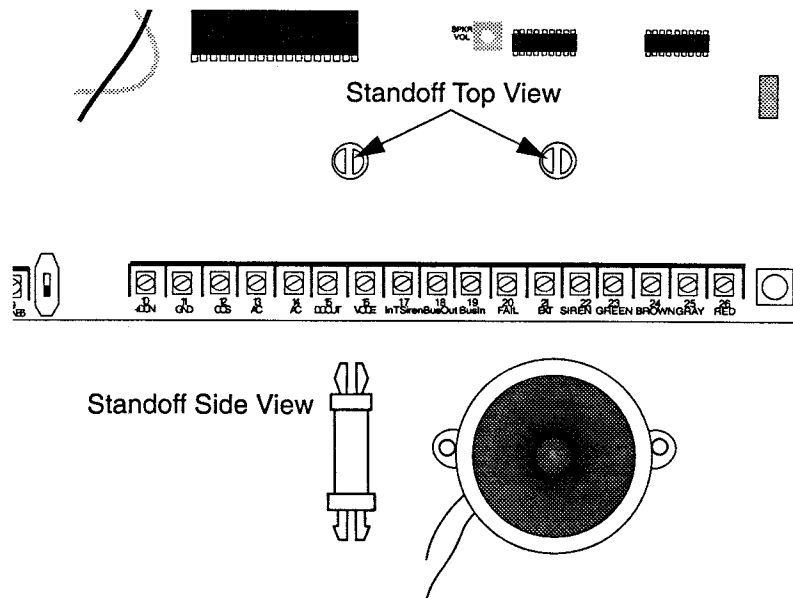

Figure 3.5. Speaker Kit Installation
1. The kit includes one speaker and two plastic standoffs. Identify the holes in the CPU board for the plastic standoffs as shown in Figure 3.5.